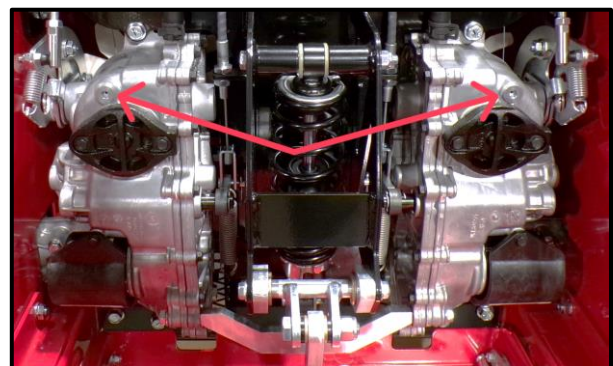

Figure 7 Plug Locations on Transaxle
- Remove the plugs from the location shown [Figure 7] using a 1/4" Hex Bit Socket and ratchet. ***Do Not Discard*** **Note:** This should help the transaxles drain completely.